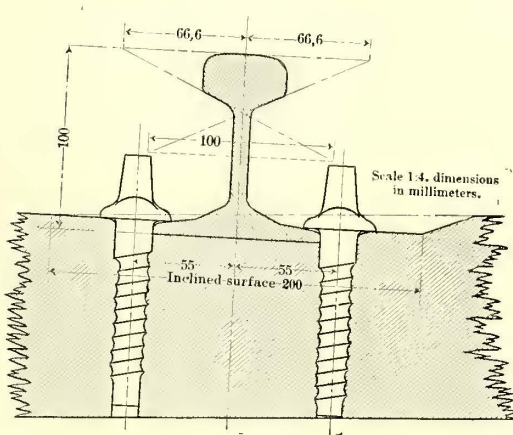
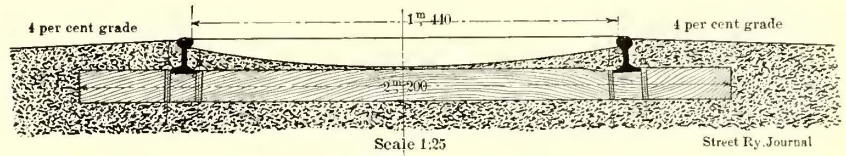

FIG. 1.—TYPICAL FRENCH T-RAIL SECTION
FIG. 2.—A TYPICAL CROSS SECTION OF T-RAIL TRACK
1. T-rails, which differ but little from American sections. Spikes are usually replaced by lag screws, and the rails are laid slightly inclined inward. Fig. 1 shows a typical rail section with fastening to the tie, and Fig. 2 gives a good example of cross section of the track. There is quite an extensive mileage of track so laid for tramways in France, because the authorities prefer to put the tracks to one side of the road by themselves whenever the width of the roadway will permit.